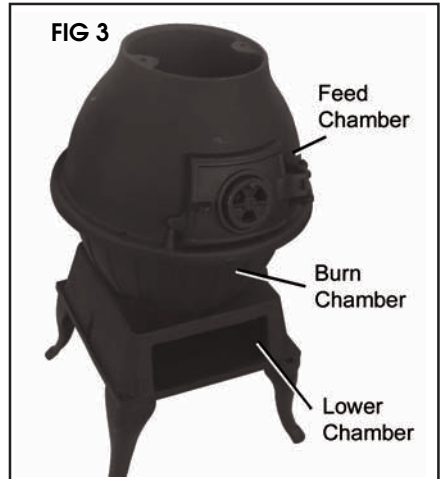

**FIG 2a**
6. If not already supplied assembled, install the riddling grate pieces, 7 and 8. Slide the grate into position, tilting it level before sliding the tongue through the operating slot in the Lower Chamber (9) as in Figs 2a & 2b.